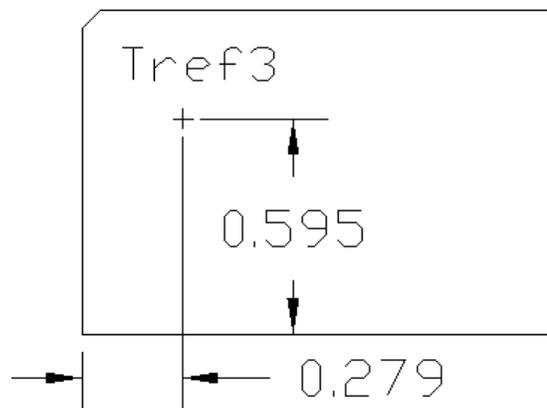

Figure 14. T_{ref} Temperature Measurement Location for Module with Heatplate.
The thermal reference point, T_{ref3} , used in the specifications for modules with heatplate is shown in Figure 14. For reliable operation this temperature should not exceed 112°C.